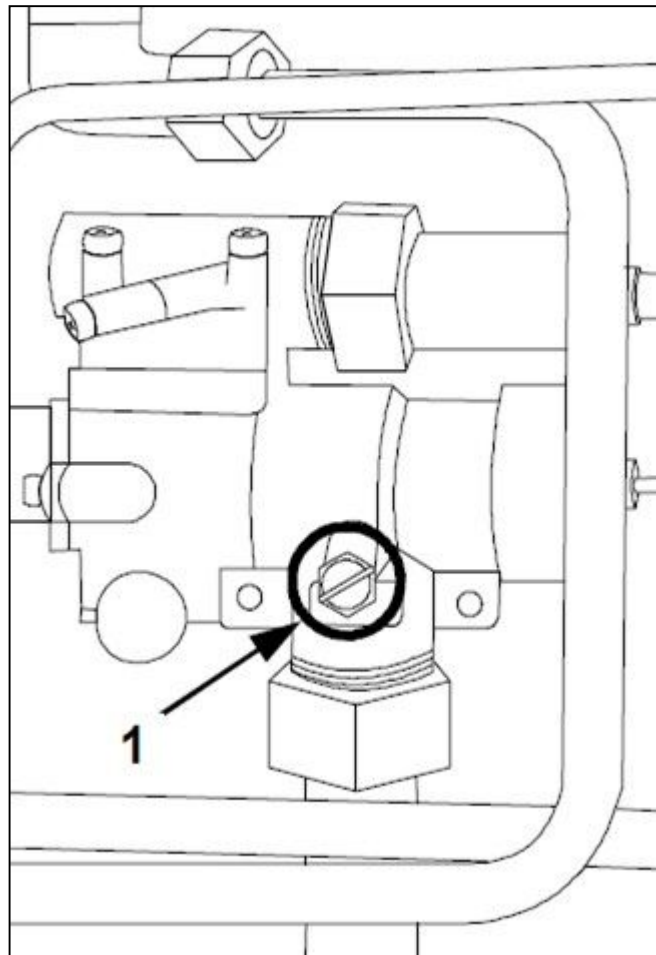

FIG. 7
- 2) Remove the retaining screw from the safety valve (main valve); (FIG.7-Ref.1)
- 7) Retighten the supply pressure tap screw (FIG.7-Ref.1);